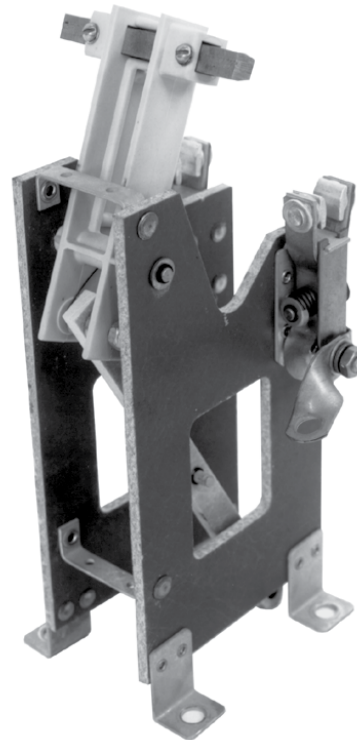

Figure 11. Contact structure removed from head mechanism.
3. Remove four hex head machine screws with pre-assembled lockwashers that secure the contact structure to the head casting. Contact structure removed from switch is shown in Figure 11.